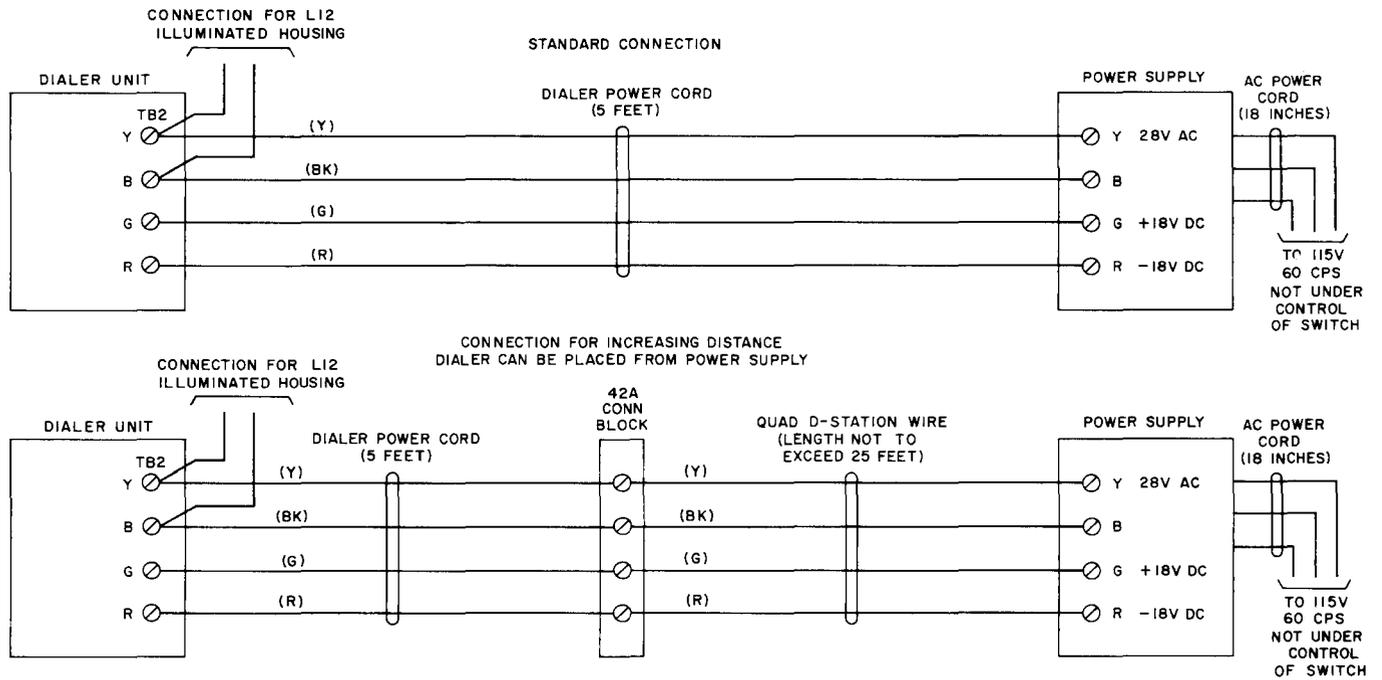

Fig. 1—Power Supply Connections
2.04 Should the dialer fail to operate upon pressing the CALL button, remove the dialer housing in order to check voltages at the terminals shown in Fig. 1. Do not adjust the level of the 18-volt dc supply. If the 18 volts dc differs by more than 2 volts from its normal value, the power supply